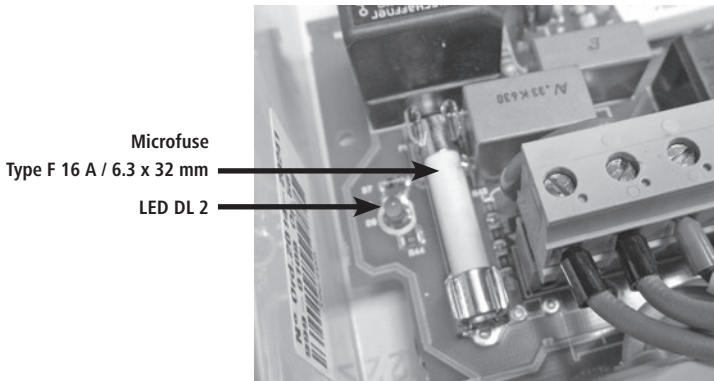

Figure 8: Changing the fuse for "Uno"
The cycle time is set at the factory to 60 seconds. If necessary, this can be adjusted using the red dip switch element on the display card (item 2, Fig. 8) from 7.5 - 120 sec. (Table inside the control box). Once the machine has been restarted (connected to the power supply), the changes will take effect and will be briefly shown on the display.